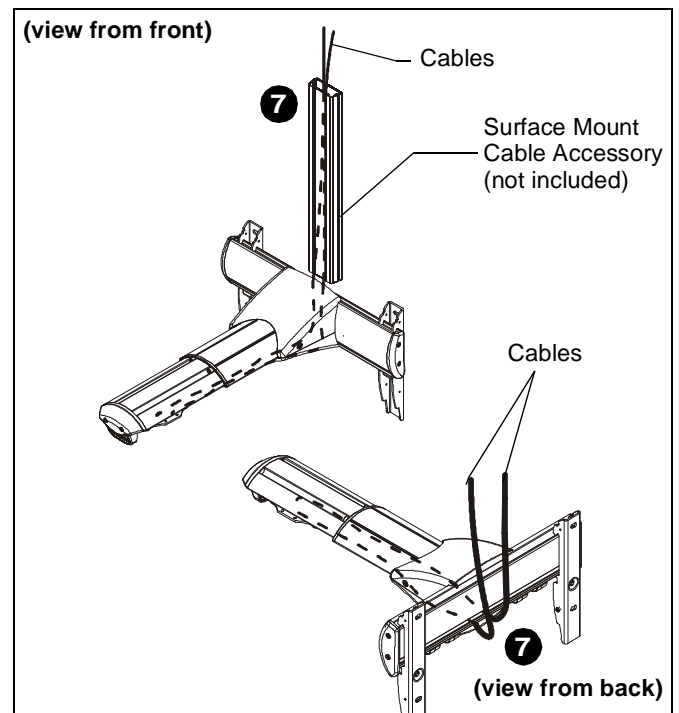

Figure 58
- Thread cables down through a surface mount cable accessory (not included), then behind and into the wall bracket. (See Figure 58) **Proceed to Step 8**